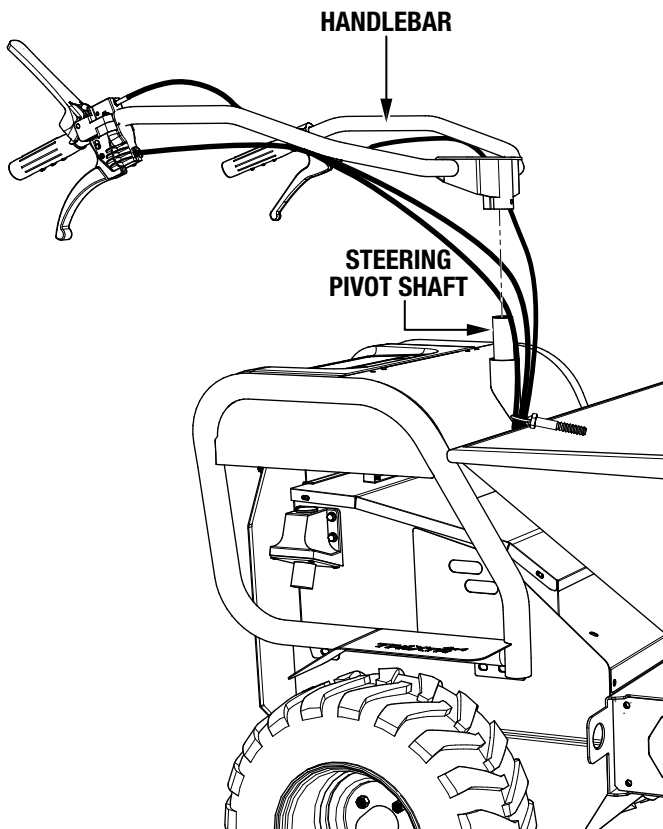

Figure 2. Handlebar Placement
1. Place the handlebar onto the steering pivot shaft (Figure 2).